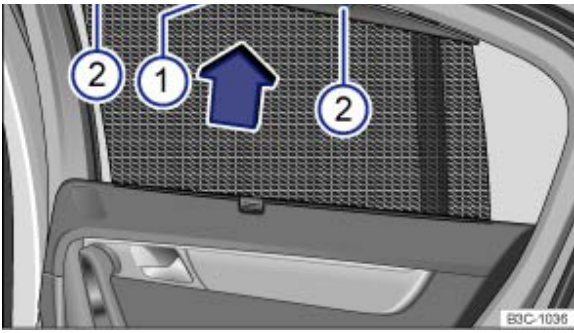

Fig. 92 In the rear right-hand window: sun blind
- Use the handle → Fig. 92  to fully pull up the sunblind.
- Hook both rings on the bar into the brackets → Fig. 92 . Make sure that the sun blind is secured firmly in both brackets → Fig. 92 .